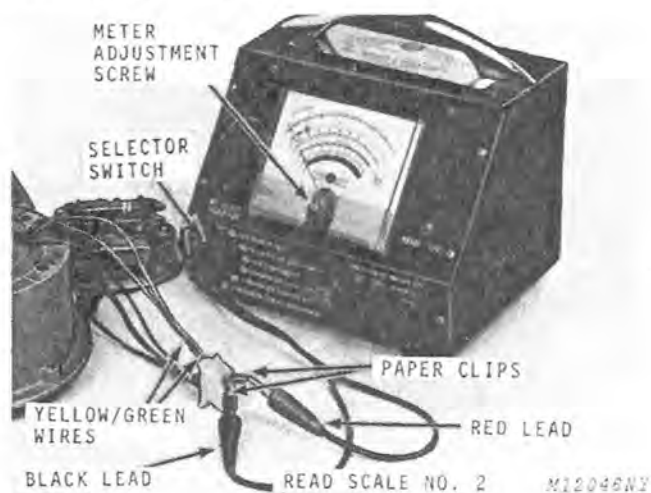

Fig. 28-Testing Lighting Coil Continuity
3. Connect the BLACK test lead to one of the yellow/green wires and the RED test lead to the other yellow/green wire, Fig. 28.